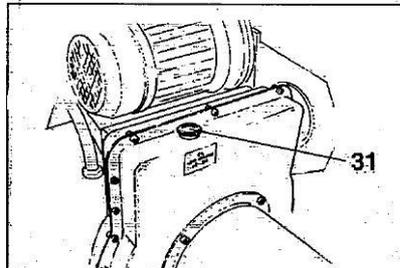

Fig.8.4
- 4) From time to time check the oil level in the gear unit which, when the tool carrier bracket is completely lowered at end travel, should not show the sight glass on the gear casing as completely empty. If necessary top up with Esso Spartan EP 320 or similar oil (eg. Agip F1 REP 237, BP GRX P 320, Chevron Gear Compound 320, Mobil Gear 632, Shell Omaia Oil 320, Castrol Alpha SP 320). Remove the cap (31, Fig.8.4), put in oil and lock the cap again.